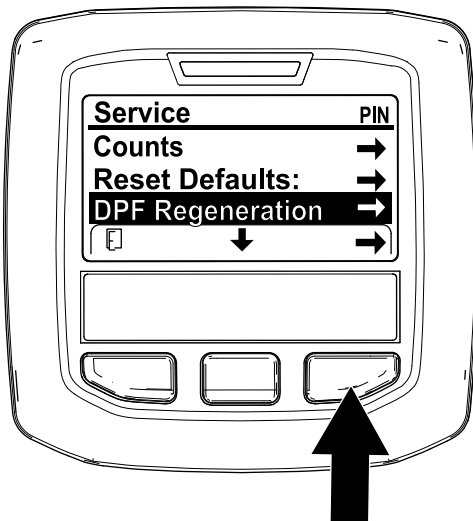

Figure 41
1. Access the Service menu, press the center button to scroll down to the DPF REGENERATION option (Figure 41).
2. Press the right button to select the DPF Regeneration entry (Figure 41).